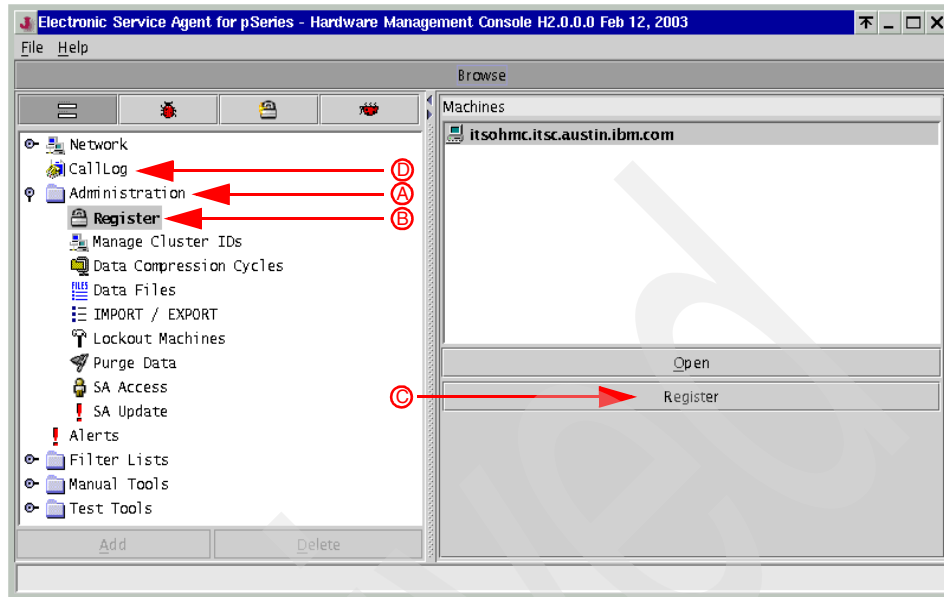

Figure 12-7 Service Agent: registering HMC
- In the Navigation area on the Service Agent window, expand **Administration** (A in Figure 12-7 on page 289) and click **Register** (B).
6. After the modem has finished dialing out, click **CallLog** as indicated by D in Figure 12-7 in order to confirm whether the registration has successfully completed. If it succeeded, this or a similar log entry should be found:
5. After the modem has finished dialing out, click **CallLog** as indicated by D in Figure 12-7 on page 289 to confirm whether the VPD has been transmitted successfully to IBM.